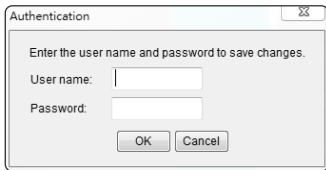

Figure 3. Authentication window
7. You will need to enter a User Name and Password for the Remote Management Card in the authentication window, as shown in Figure 3.